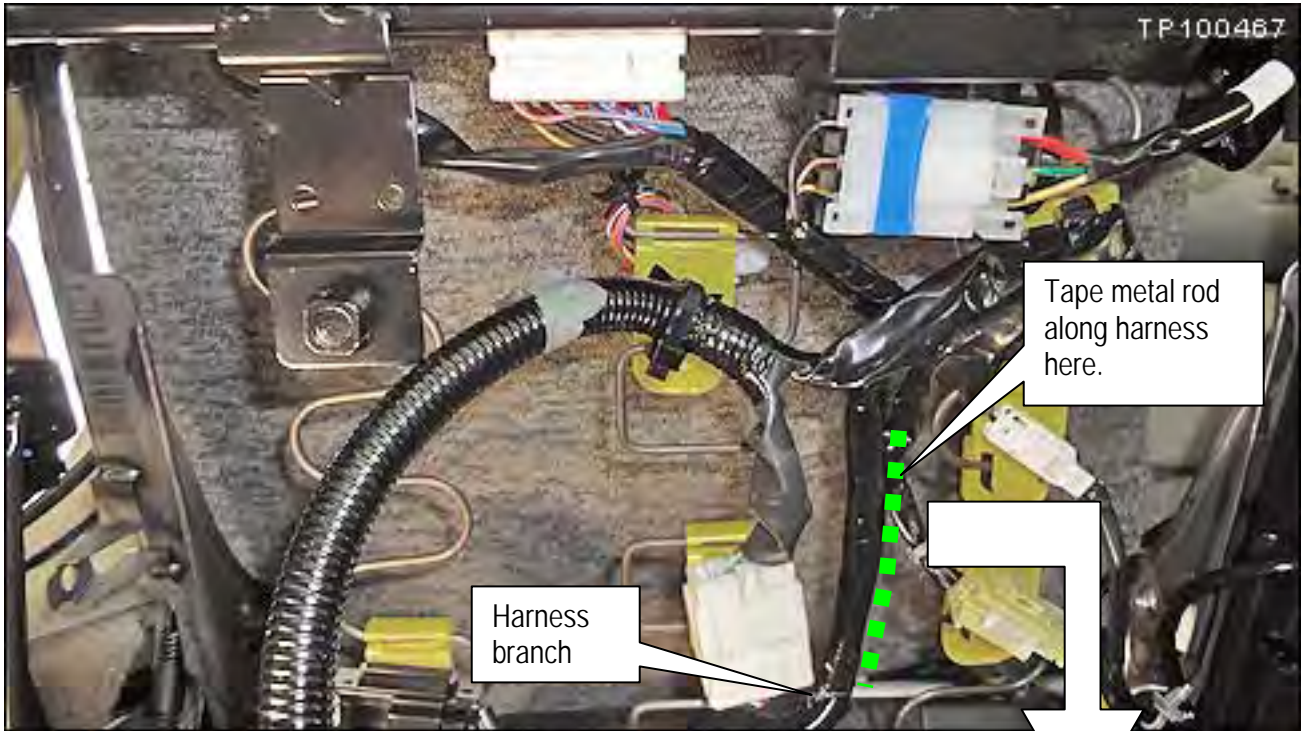

Figure 7c
9. Tape the metal rod (P/N 87607 – CF90A) to the seat harness as shown in Figures 7c and 8c.